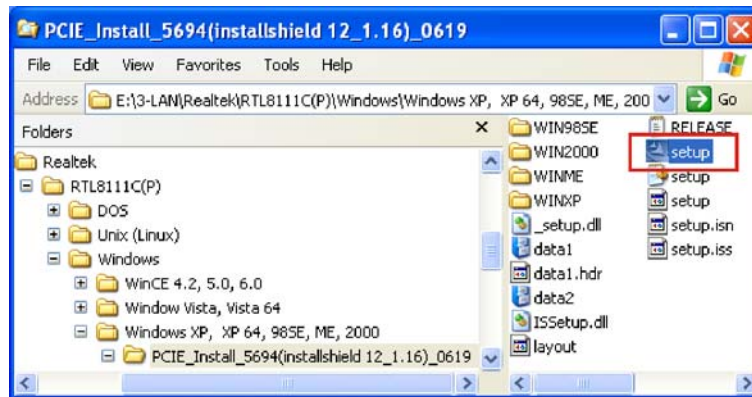

Figure 7-16: LAN Driver Directory
Step 2: Browse to the directory with the setup file (**Figure 7-16**).